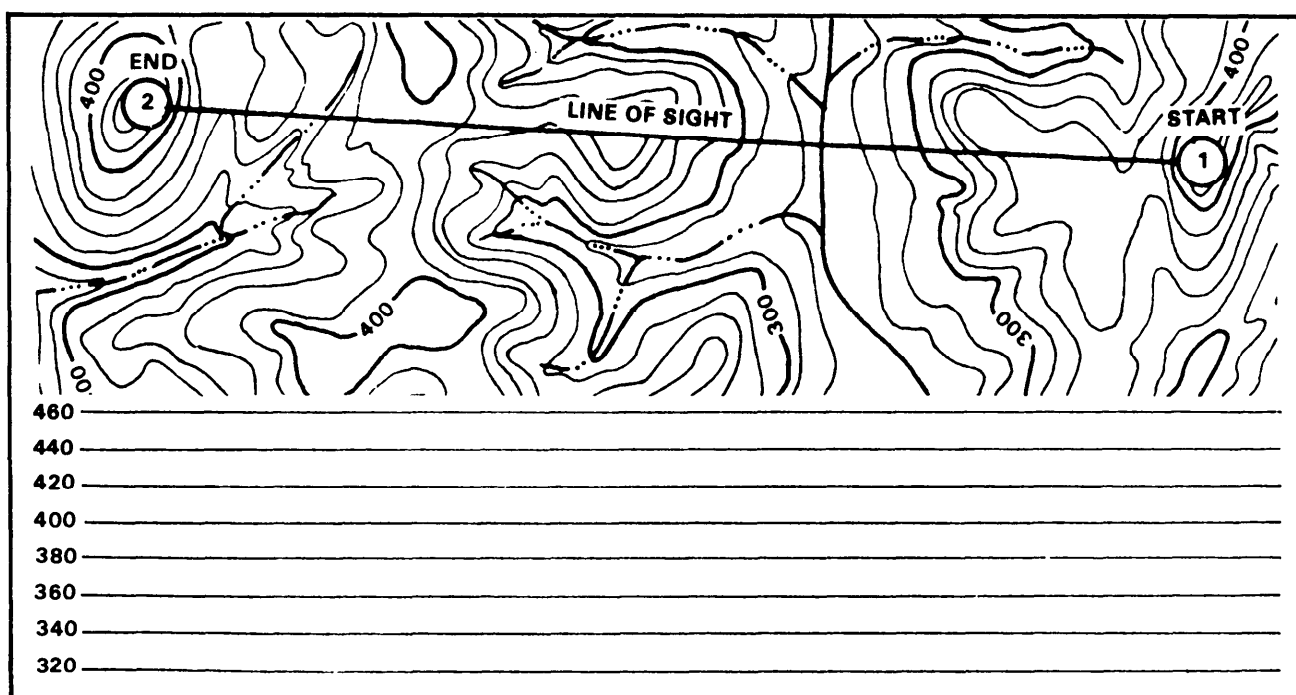

Figure 6-27. Profile line (map contour elevation 10 feet).
f. Construction of a Terrain Profile. The leader may use a side view or cross section of the ground along a selected line or direction to determine where friendly and enemy forces can see each other. The leader can also use it to plan fires; that is, to locate dead space, to plan a defilade position, and so on. To construct a terrain profile, locate the gun position on the map and determine the direction of fire, or profile line (Figure 6-27).